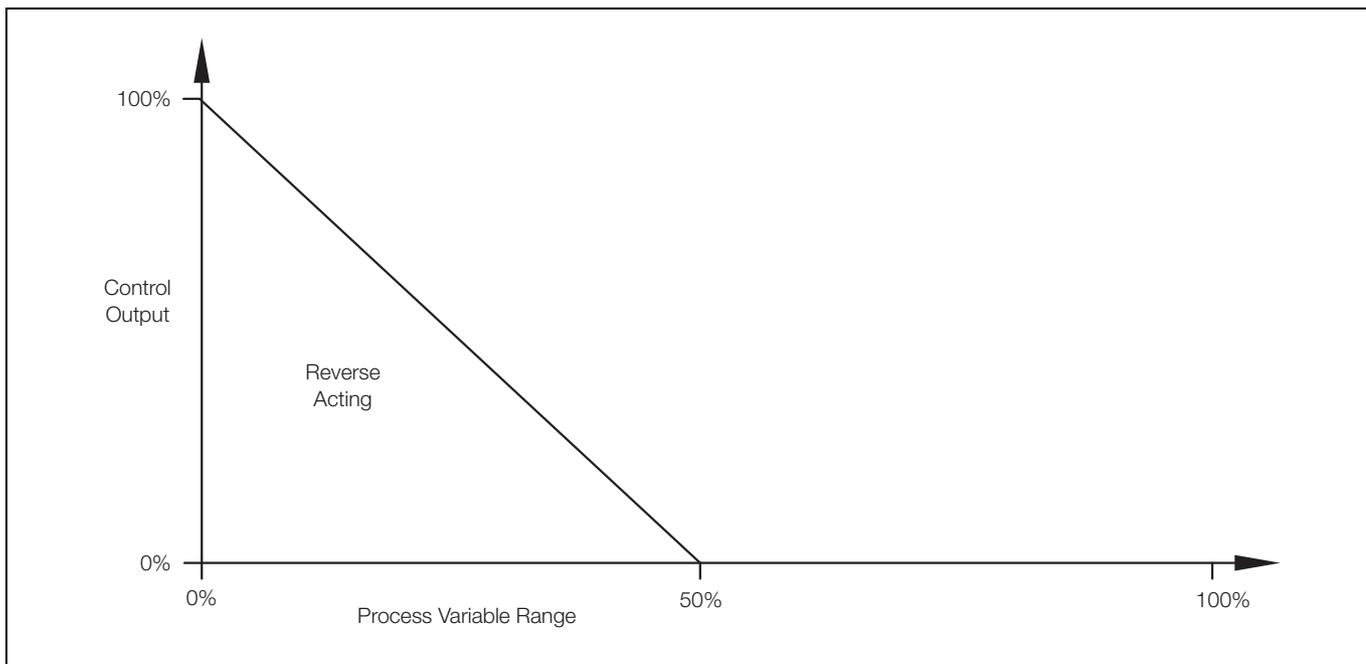

Fig. B.2 Reverse Acting Single PID Control
B.1.1 Reverse Acting Single PID Control – Fig. B.2